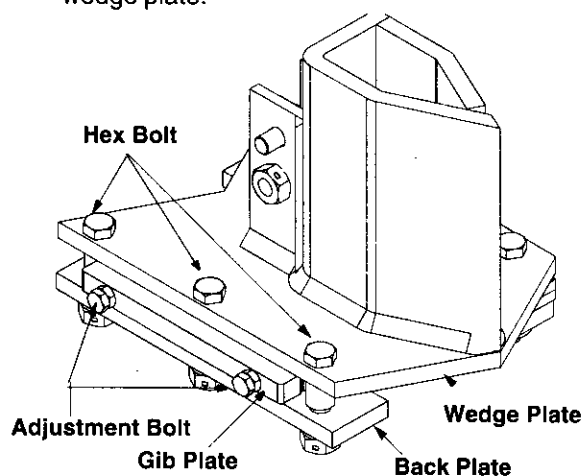

Figure 17
- Loosen three hex bolts on top of the wedge plate (beneath the splitting wedge). See Figure 17.
- Loosen the lock nuts on the two adjustment bolts on the side of the gib plate, located beneath the splitting wedge. See Figure 17. Turn the adjustment bolts in until snug, then back them off **slowly** until the wedge assembly will slide on the beam.
- Remove the center bolt on top of the wedge plate. Slide the gib plate out. See Figure 17.